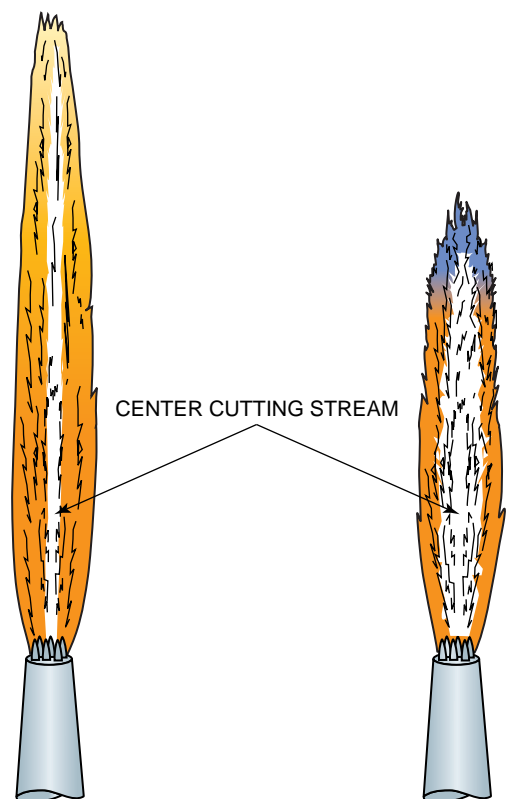

FIGURE 6-32 A clean cutting tip will have a long, well-defined oxygen stream.
7. Increase the pressure slowly and readjust the flame as you watch the length of the clear cutting stream in the center of the flame, Figure 6-32.
The center stream will stay fairly long until a pressure is reached that causes turbulence disrupting the cutting stream. This turbulence will cause the flame to shorten in length considerably, **Figure 6-32**.